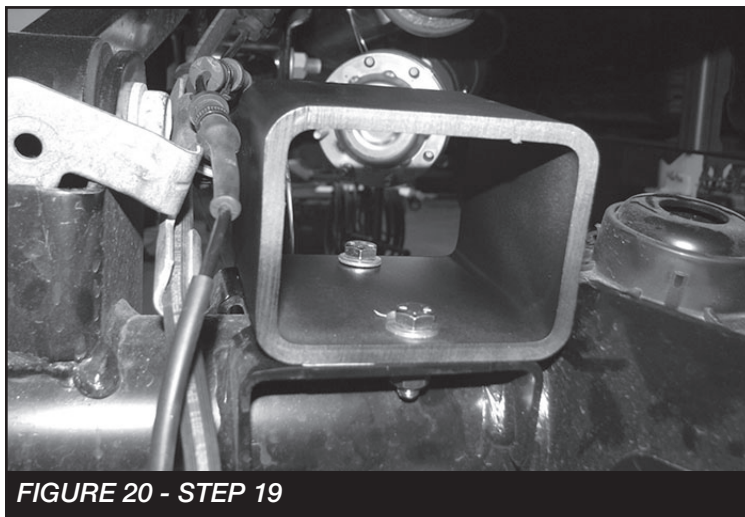

FIGURE 20 - STEP 19
19. Install the FT50724 (Rear bumpstop spacer) using the supplied 5/16" x 1" hardware. Torque to 25 ft-lbs **SEE FIGURE 20.**